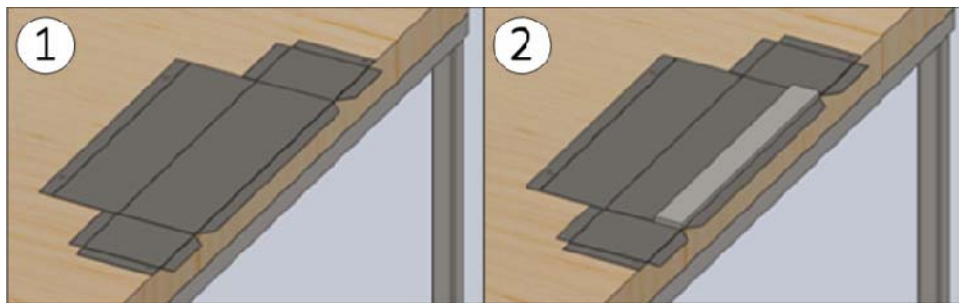

Figure 4: Setting up for Bend #1- (1) Align the bend line with the edge of the table. (2) Align the Bending Bar with the bend line and the edge of the table.
- A.** Place work piece onto the work table and align the bend line drawn in the previous step with edge of the table as shown in Figure 4.
- B.** Place the **Bending Bar** as shown in Figure 4, aligning the edge of the bar with the bend line.